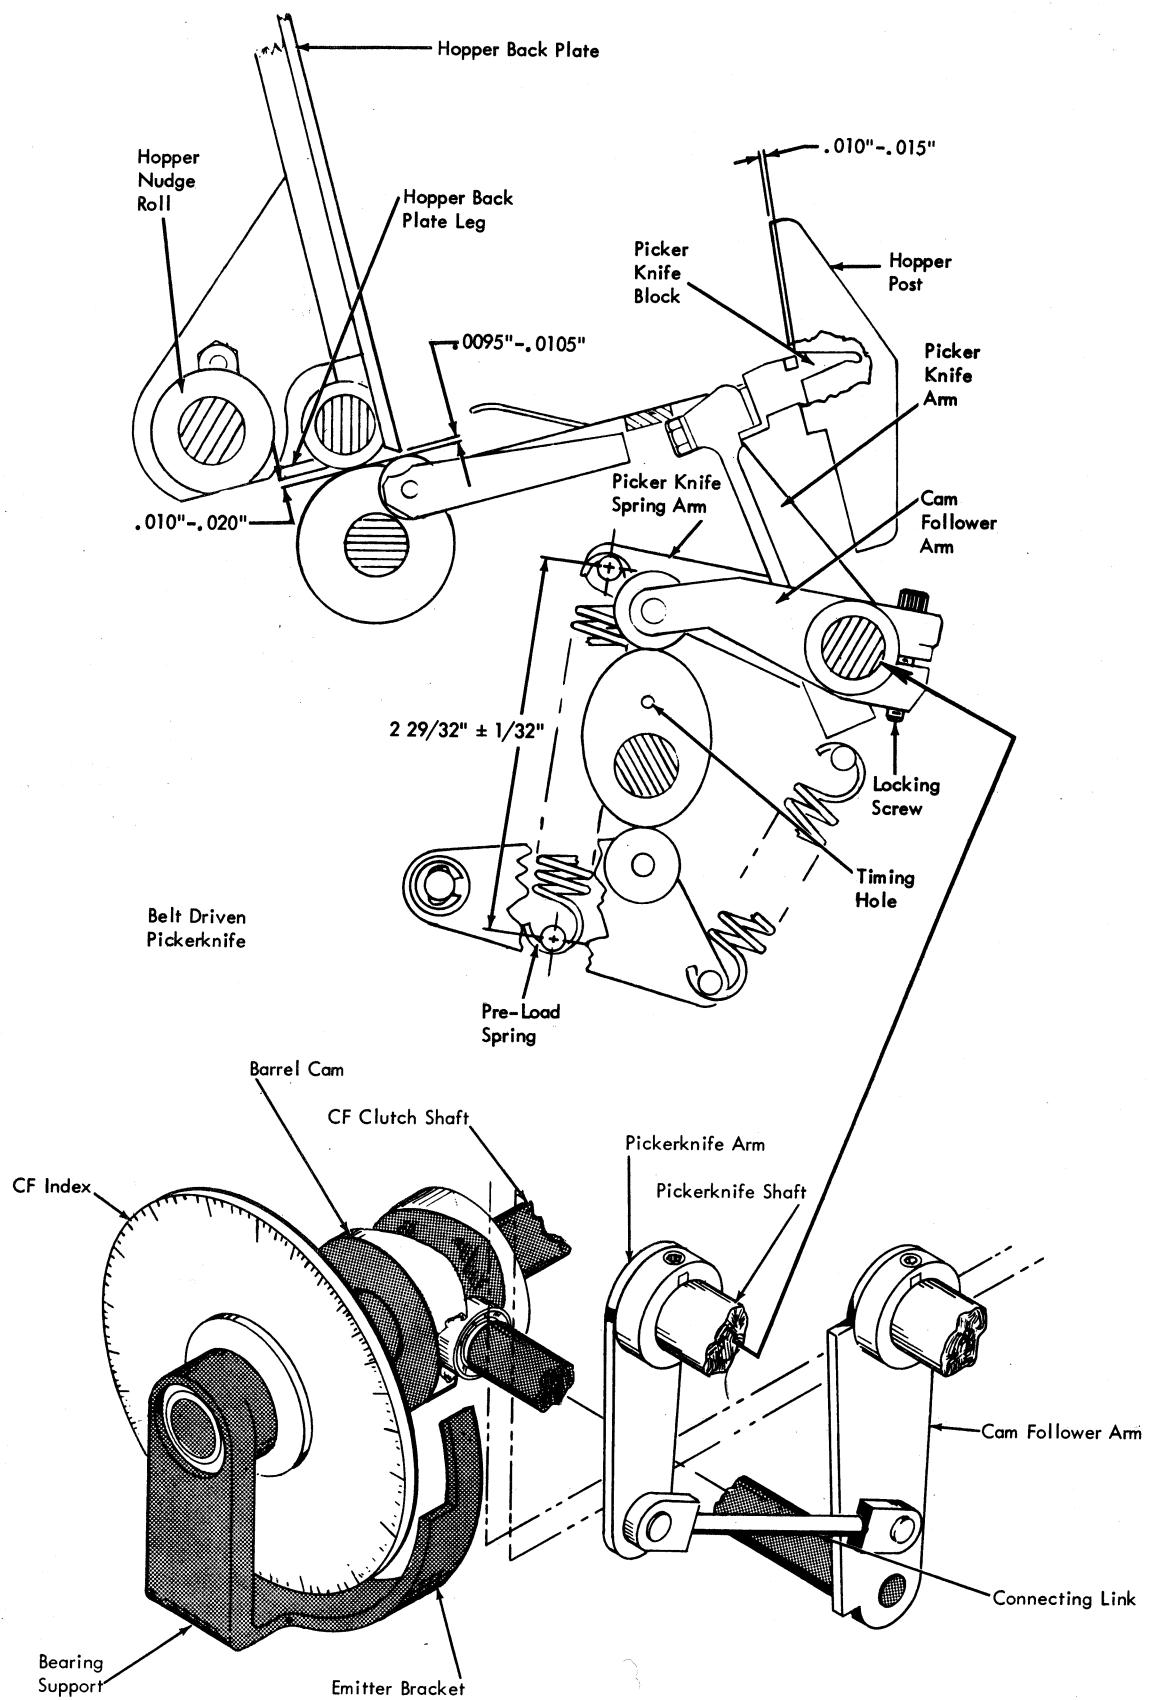

Figure 4-7. Pickerknife and Throat Adjustments
3. Step 3 is for machines with barrel cam pickerknife drive. Remove connecting link (Figure 4-7), loosen follower arm setscrew and slide cam follower free of cam.
2. Remove connecting link (Figure 4-7).
1. Position throat roller so the high point is located under the tip of the throat knife. See Figure 4-7. This can be checked by: (1) loosening the throat knife, (2) lowering it on a $.010"$ gage, and (3) positioning the throat roller so the gage is parallel to the card path.
- b. $.010" \text{ to } .020"$ clearance between top of feed rolls and bottom of hopper back plate leg. See Figure 4-7.
1. Place feed knife cam follower on high dwell (Figure 4-7). Insert timing pin.
3. Adjust position of pickerknife operating arms so each feed knife is $.010" \text{ to } .015"$ behind the inner face of the rear guide posts, and in line with each other (Figure 4-7). Remove timing pin. Each pickerknife block is fixed on its arm. Two Carboloy* pieces, ground to specification for proper knife projection, are inserted in the block surface to resist wear. Knife projection is not adjustable; therefore, the pickerknife block must be replaced when the inserts become worn.
2. Adjust position of pickerknife operating arms so each feed knife is .010" to .015" behind the inner face of the rear guide posts, and in line with each other (Figure 4-7). Two Carbalyo* pieces, ground to specification for proper knife projection, are inserted in the block surface, to resist wear. Knife projection is not adjustable; therefore, the pickerknife block must be replaced when the inserts become worn.